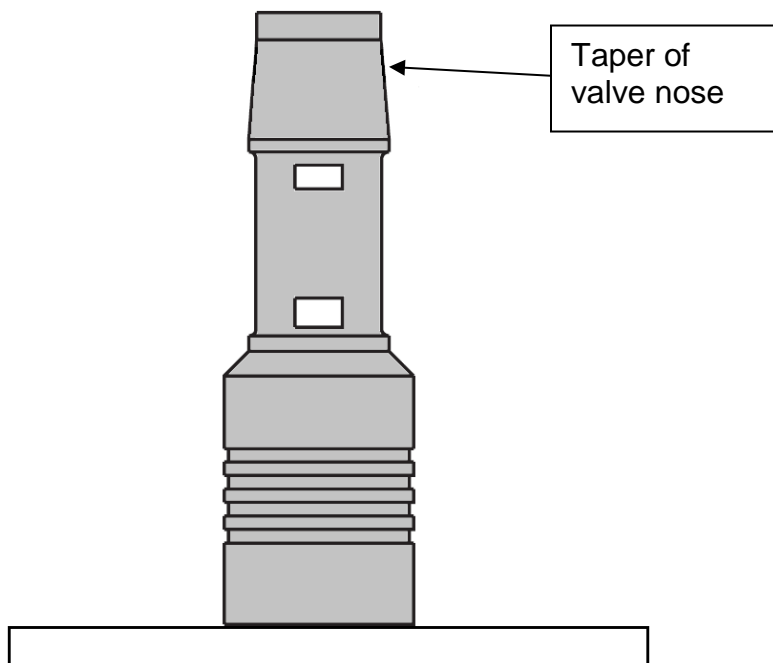

Figure 9: Insert orientation
4.5.2 To apply a new nose seal, take the insert and place the face of the locking end on a level work surface so that the tapered nose of the insert faces upward (Figure 9).